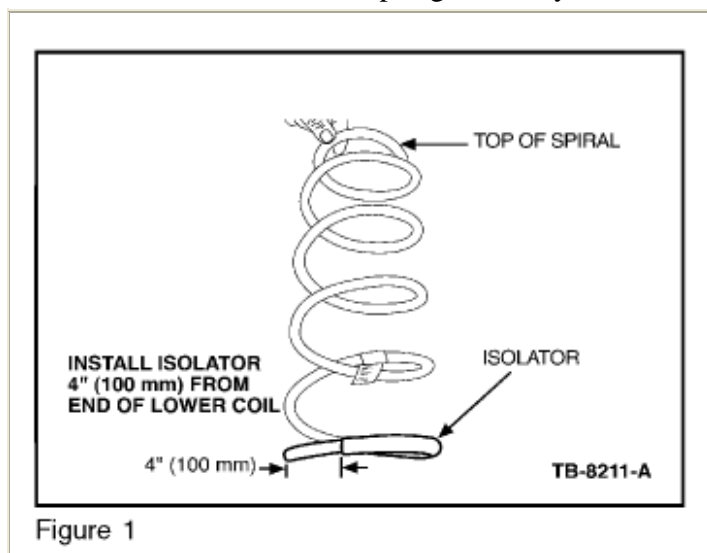

Figure 1
3. If the springs do not have a rubber isolator on the bottom spring coil, install isolators. Clean off any dirt prior to installing the isolator. The isolator should be installed 4" (100 mm) from the end of the coil (Figure 1).